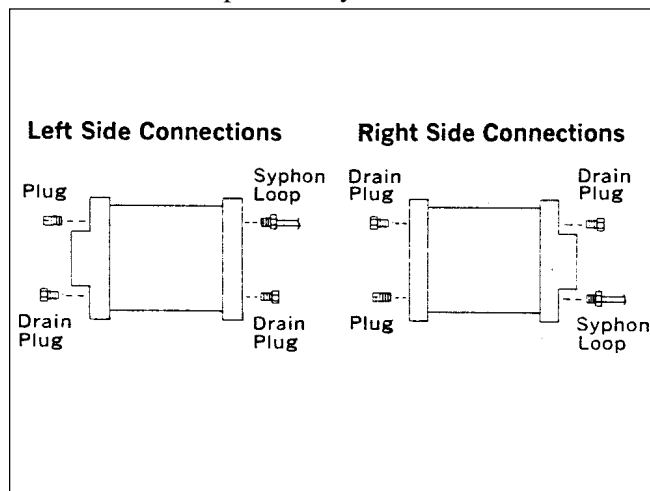

Figure 5. Connection Locations.
16. Install the drain cocks and pipe plug according to the illustration (see Fig. 5).